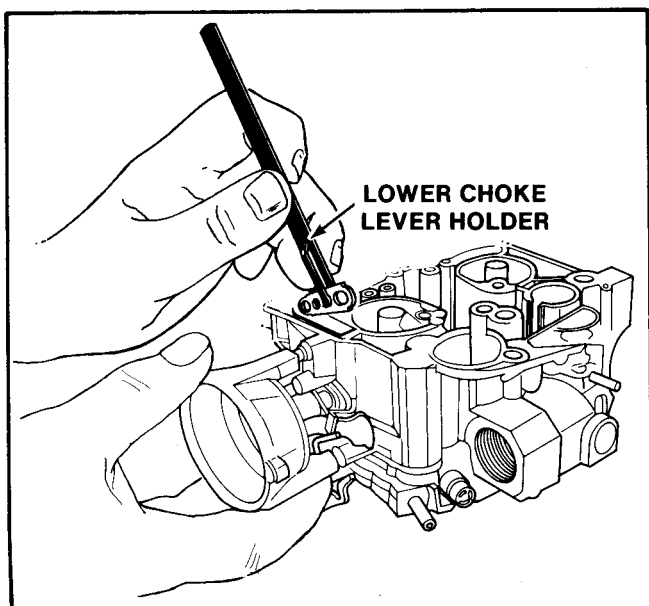

Figure 64 Installing Lower Choke Rod Lever
**NOTICE:** Tool BT-6911 can be used to hold the lower choke rod inner lever in correct position while installing the choke housing as shown in Figure 64.